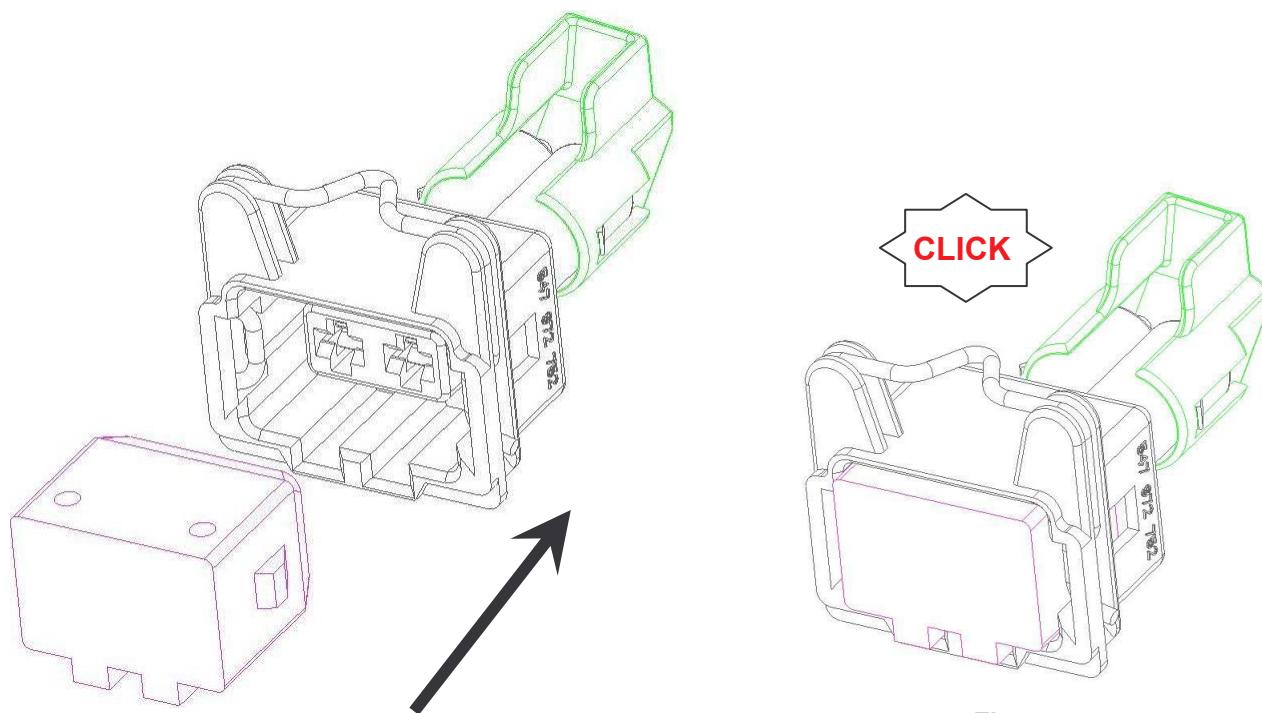

Figure 7
6.2 Insert the connectors (Rec.and Tab) in the direction shown by the arrows; see Figure 7 below.